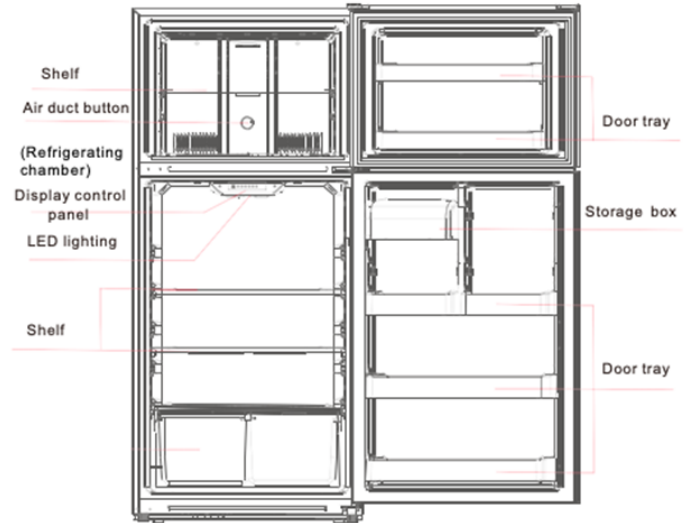

Figure 1. TSV18CPSA Model
**Note:** Figure 1 & 2 are only for reference. The actual configuration will depend on the physical product or statement by the distributor.